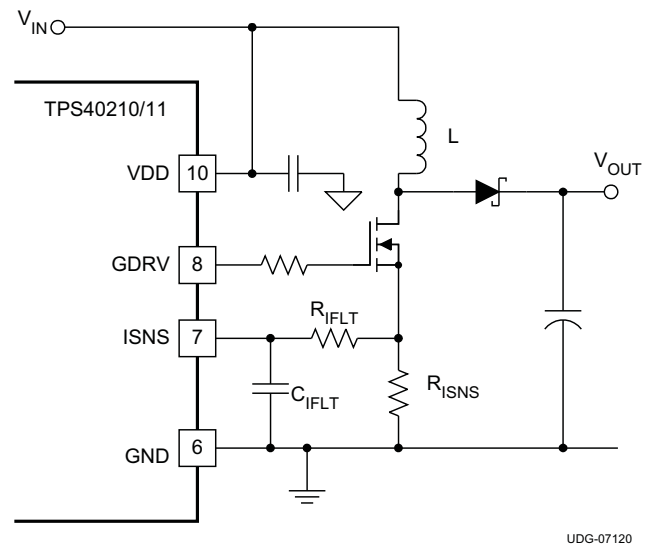

Figure 26. Current Sense Components
- V_D is the drop across the diode in Figure 26
It is possible to increase the voltage compensation ramp slope by connecting the VDD pin to the output voltage of the converter instead of the input voltage as shown in Figure 26. This can help in situations where the converter design calls for a large ripple current value in relation to the desired output current limit setting.
In most cases, a small filter placed on the ISNS pin improves performance of the converter. These are the components R_{IFLT} and C_{IFLT} in Figure 26. The time constant of this filter should be approximately 10% of the nominal pulse width of the converter. The pulse width can be found using Equation 20.